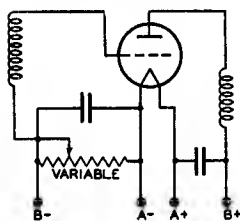
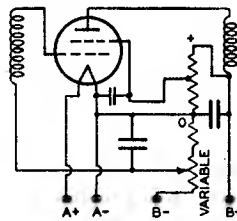

Fig. 55
Fig. 57
Grid-bias variation for the r-f and i-f amplifier stages is a convenient and frequently used method for controlling receiver volume. The variable voltage supplied to the grid may be obtained: (1) from a variable cathode resistor as shown in Figs. 55 and 56; (2) from a bleeder circuit by means of a potentiometer as shown in Fig. 57 or (3) from a bleeder circuit in which the bleeder current is varied by a tube used for automatic volume control. The latter circuit is shown in Fig. 41. In all cases it is important that the control be arranged so that at no time will the bias be less than the recommended grid-bias voltage for the particular tubes used. This requirement can be met by providing a fixed stop on the potentiometer, by connecting a fixed resistance in series with the variable resistance, or by connecting a fixed cathode resistance in series with the variable resistance used for regulation.